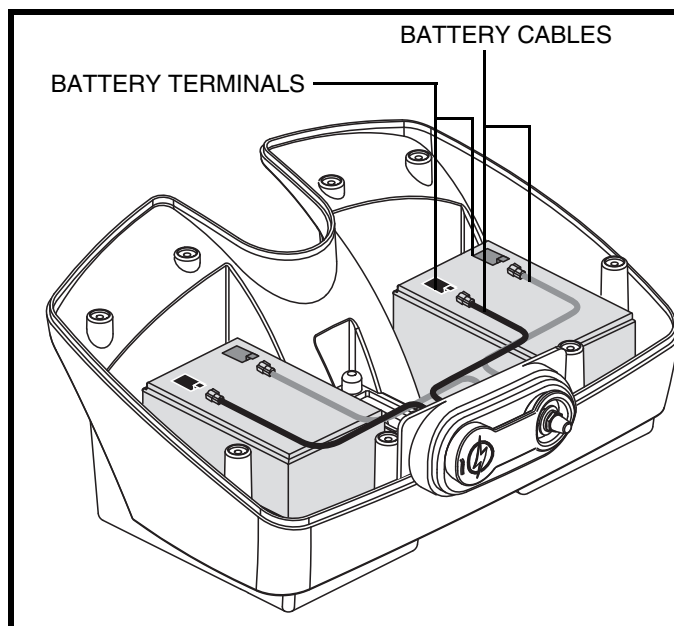

Figure 12. Battery Replacement
3. Remove the eight (8) screws from the perimeter of the battery pack.
5. Disconnect the black (-) and red (+) battery cables from the battery terminals of each battery. **See figure 12.**